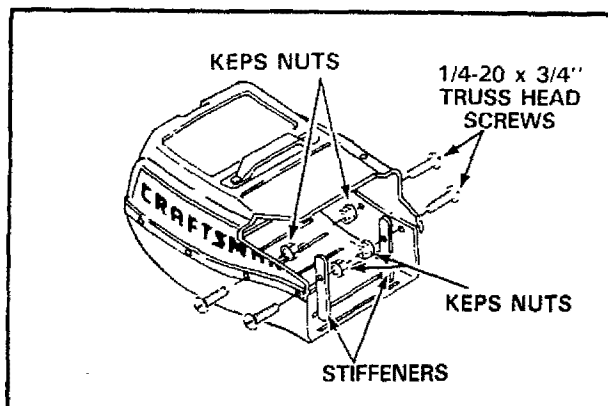

FIG. 10
9. Position top half of catcher on the bottom half (See Fig. 10).
11. Install the eight (8) 1/4-20 x 3/4" truss head screws, starting at the right front of catcher as shown in Fig. 10.
12. Install the right front truss head screw thru the catcher and install one (1) stiffener on the screw.
14. Install the other seven (7) screws and nuts, on the last or seventh screw install the stiffener and locknut.